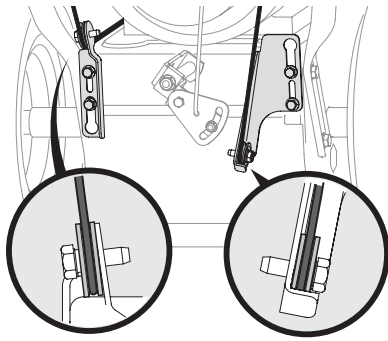

Figure 2-2
4. Observe lower rear area of equipment to be sure both cables (if equipped) are aligned and seated properly in roller guides. See Figure 2-2.